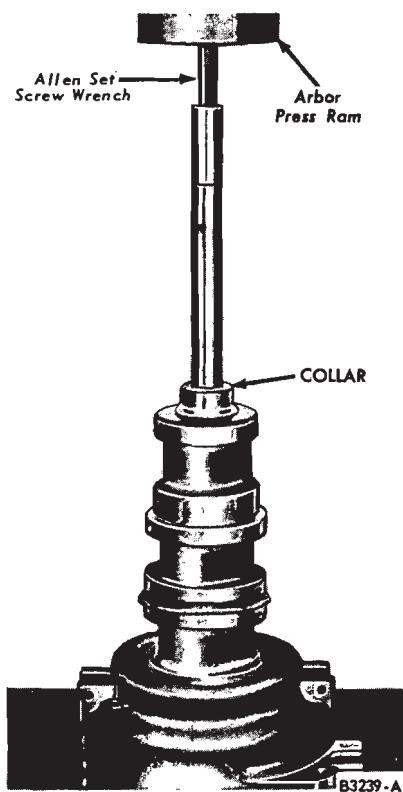

FIG. 14—Removing Shaft—V-8 Engine
4. Invert the distributor and place it on a support plate in a position that will allow the distributor shaft to clear the support plate and press the shaft out of the collar and the distributor housing (Fig. 14).